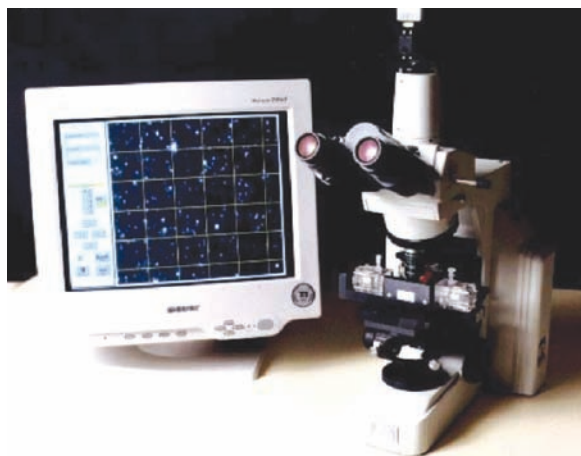

Figure 1
The zeta potential system (Figure 1) uses a stereoscopic microscope to observe particle movement through a glass cell called an electrophoresis cell. Electrodes in each end of the cell create an electric field. Particles possessing a positive charge (+) will move toward the anode (-), and negative particles (-) toward the cathode (+). Particle speed and direction are related to its zeta potential (ZP). The ZP corresponding to optimum coagulant dose varies from plant to plant. It is important to understand that a ZP of zero is hardly ever the optimum value! The goal is to lower repulsive forces to the point where particle collisions causes agglomeration, and achieves the optimum particle size/density resulting in the best flocculation, sedimentation, and filtration. This "net charge" value could be negative, zero, or positive, but usually negative. ZP is normally expressed in millivolts. An optimum charge might be from -10 to -5 millivolts, for example.